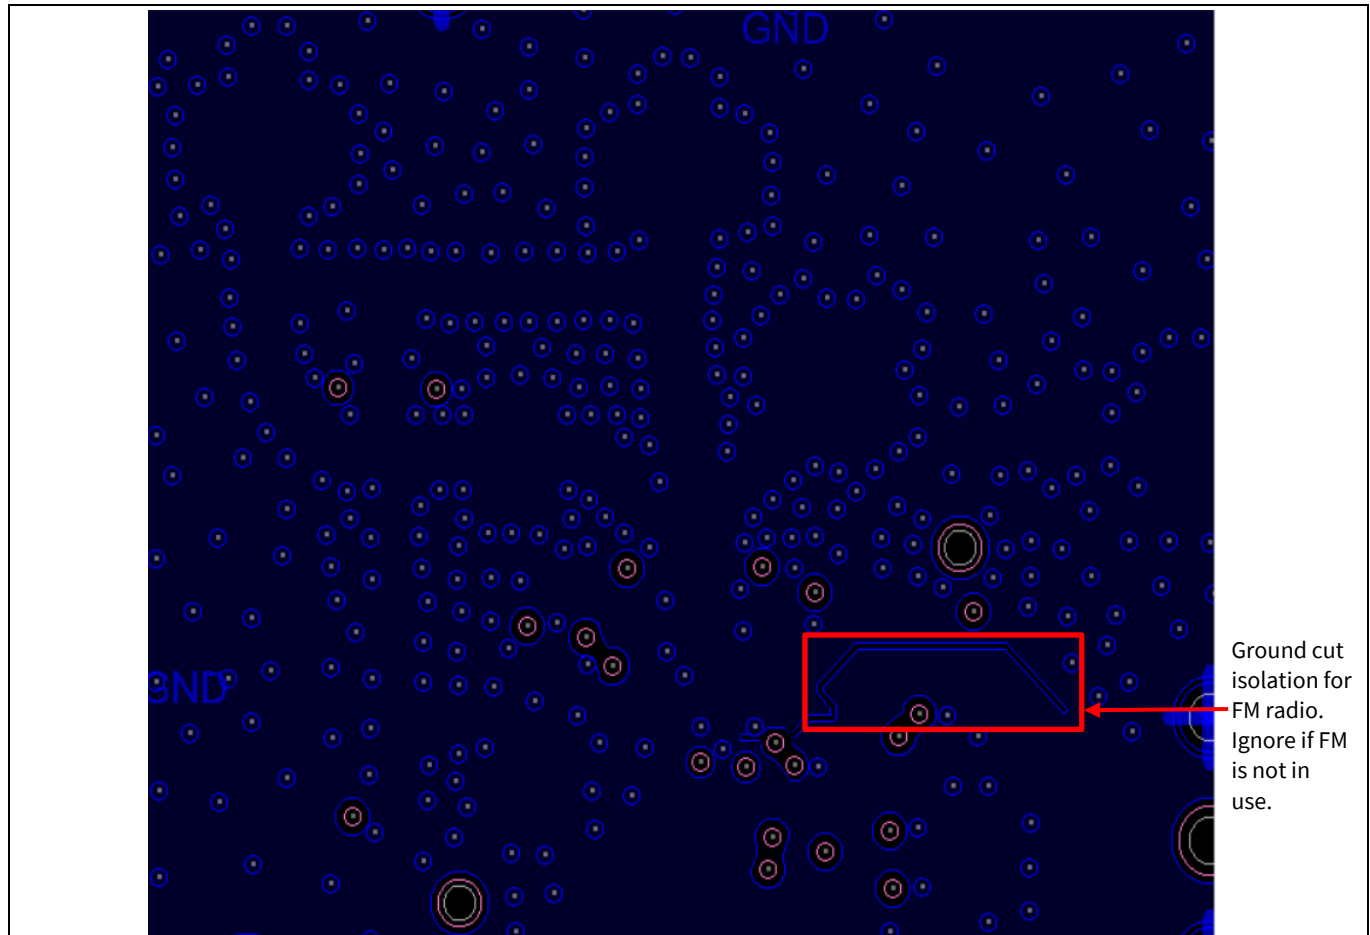

**Figure 7** CYW43439 Reference Board Layer 2 (Ground Plane)
**Figure 7** shows Layer 2, which is predominantly a ground plane. The ground cuts under the XTAL is also shown. If the FM section is not in use, the FM ground cut can be ignored.